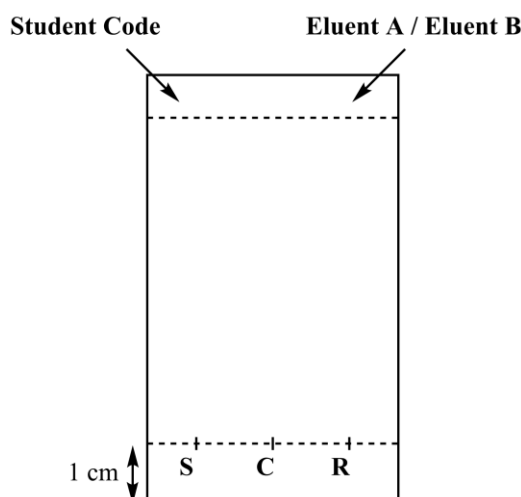

Figure 3. TLC plate preparation
- 3- Prepare your TLC plate. Use a pencil to draw carefully the start line (1 cm above the bottom of the plate) and mark the positions in order to spot the 3 samples. Label them S (Starting material), C (Crude product) and R (Recrystallized product), as described in Figure 3. On the top left of the plate, write your **Student Code**. On the top right of the plate, write the eluent you use (first **Eluent A**, then **Eluent B**). Spot the three samples on the plate, using capillary spotters.